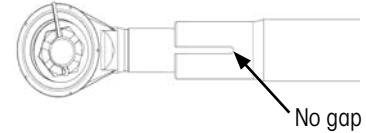

Figure 14: Tie rod end no gap
2. If replacing the tie rod assembly (Figure 14 on page 11), **go to REATTACH TIE ROD, ON PAGE 11.**
NOTE: Threaded ends of tie rod ends are to be engaged deeper than the end of the tie-rod cross-tube slot. There should be no air gap visible between the end of the tie-rod cross-tube slot and threaded portion of the tie-rod end, Figure 14.